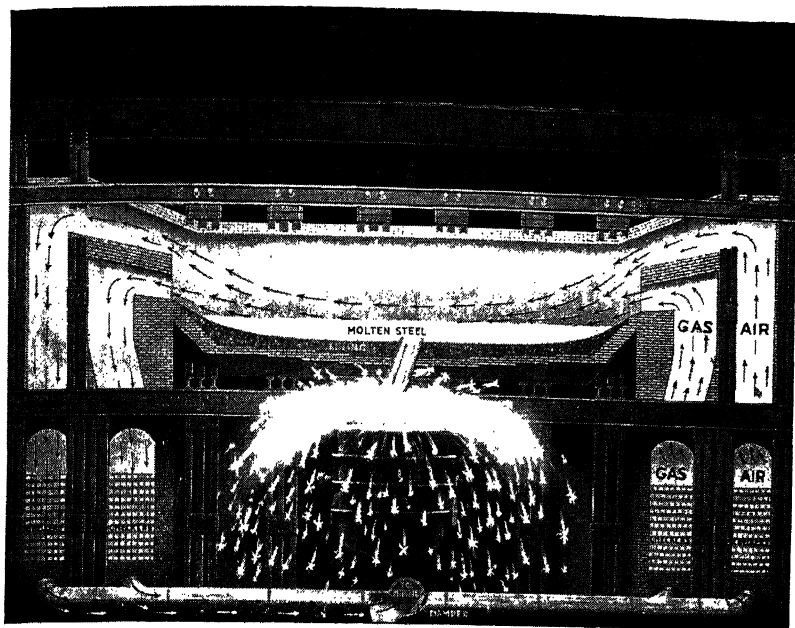

Fig. 263. The cross section of an open-hearth furnace
**Open-Hearth Process for Making Steel.** Iron ores suitable to be used in the Bessemer converter have become more or less scarce, so those high in phosphorus content must now be used. These ores, because of the phosphorus, demand a different process, known as the "open hearth," for being made into steel. The open hearth is a large, shallow saucer or tray lined and inclosed with firebrick (see Fig. 263). The hearth or working bed is about 40 feet long and 16 feet wide. The charge consists of pig iron (often added from the blast furnaces) and scrap iron. This is the scrap iron generally found in the hands of junk dealers. Hot gases are forced into the furnace and burned above and around the charge until it melts and forms a molten mass. As the heating continues, the impurities burn off leaving almost pure iron. To make this iron into steel, weighed quantities of carbon and manganese are added just as in the Bessemer process. It takes upward to 12 hours, depending upon the quantity of the charge, to make steel by this method. The advantage of the open-hearth process is the removal of the objectionable phosphorus. It also makes use of the many tons of scrap iron that are formed and collected daily in this country. Formerly only poor grades of steel were made in the open-hearth furnace, but modern methods have improved the product